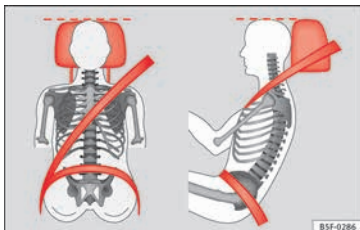

Fig. 77 Correctly adjusted head restraint as viewed from the front and the side.
- Adjust the head restraint so that its upper edge is, as far as possible, at the same level as the top of your head, or at the very least, at eye level » **Fig. 77**.